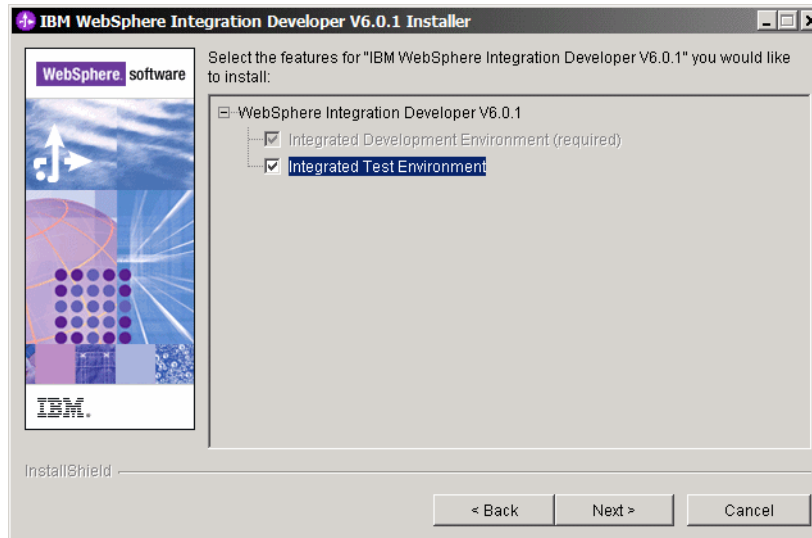

Figure A-3 Installing the integrated test environment
- ▶ In the features panel select *Integrated Test Environment* (Figure A-3).